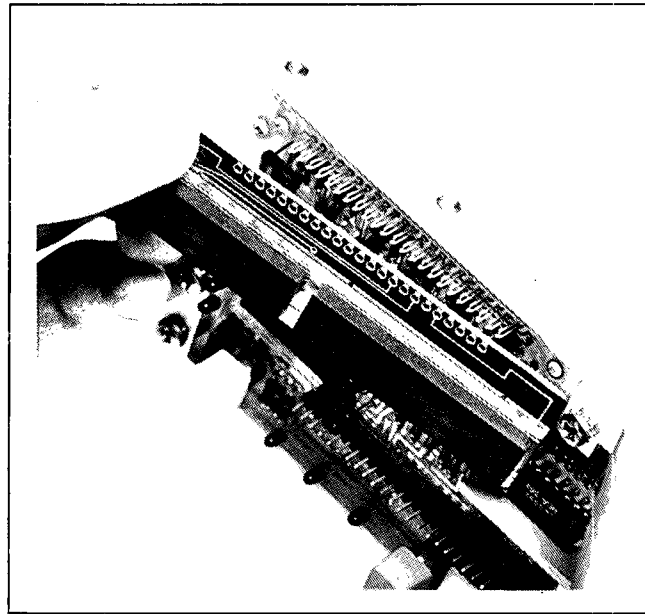

Figure 5-22. Display Removal.
- c. Lift Display off connector contacts by raising left side of display (Figure 5-22).